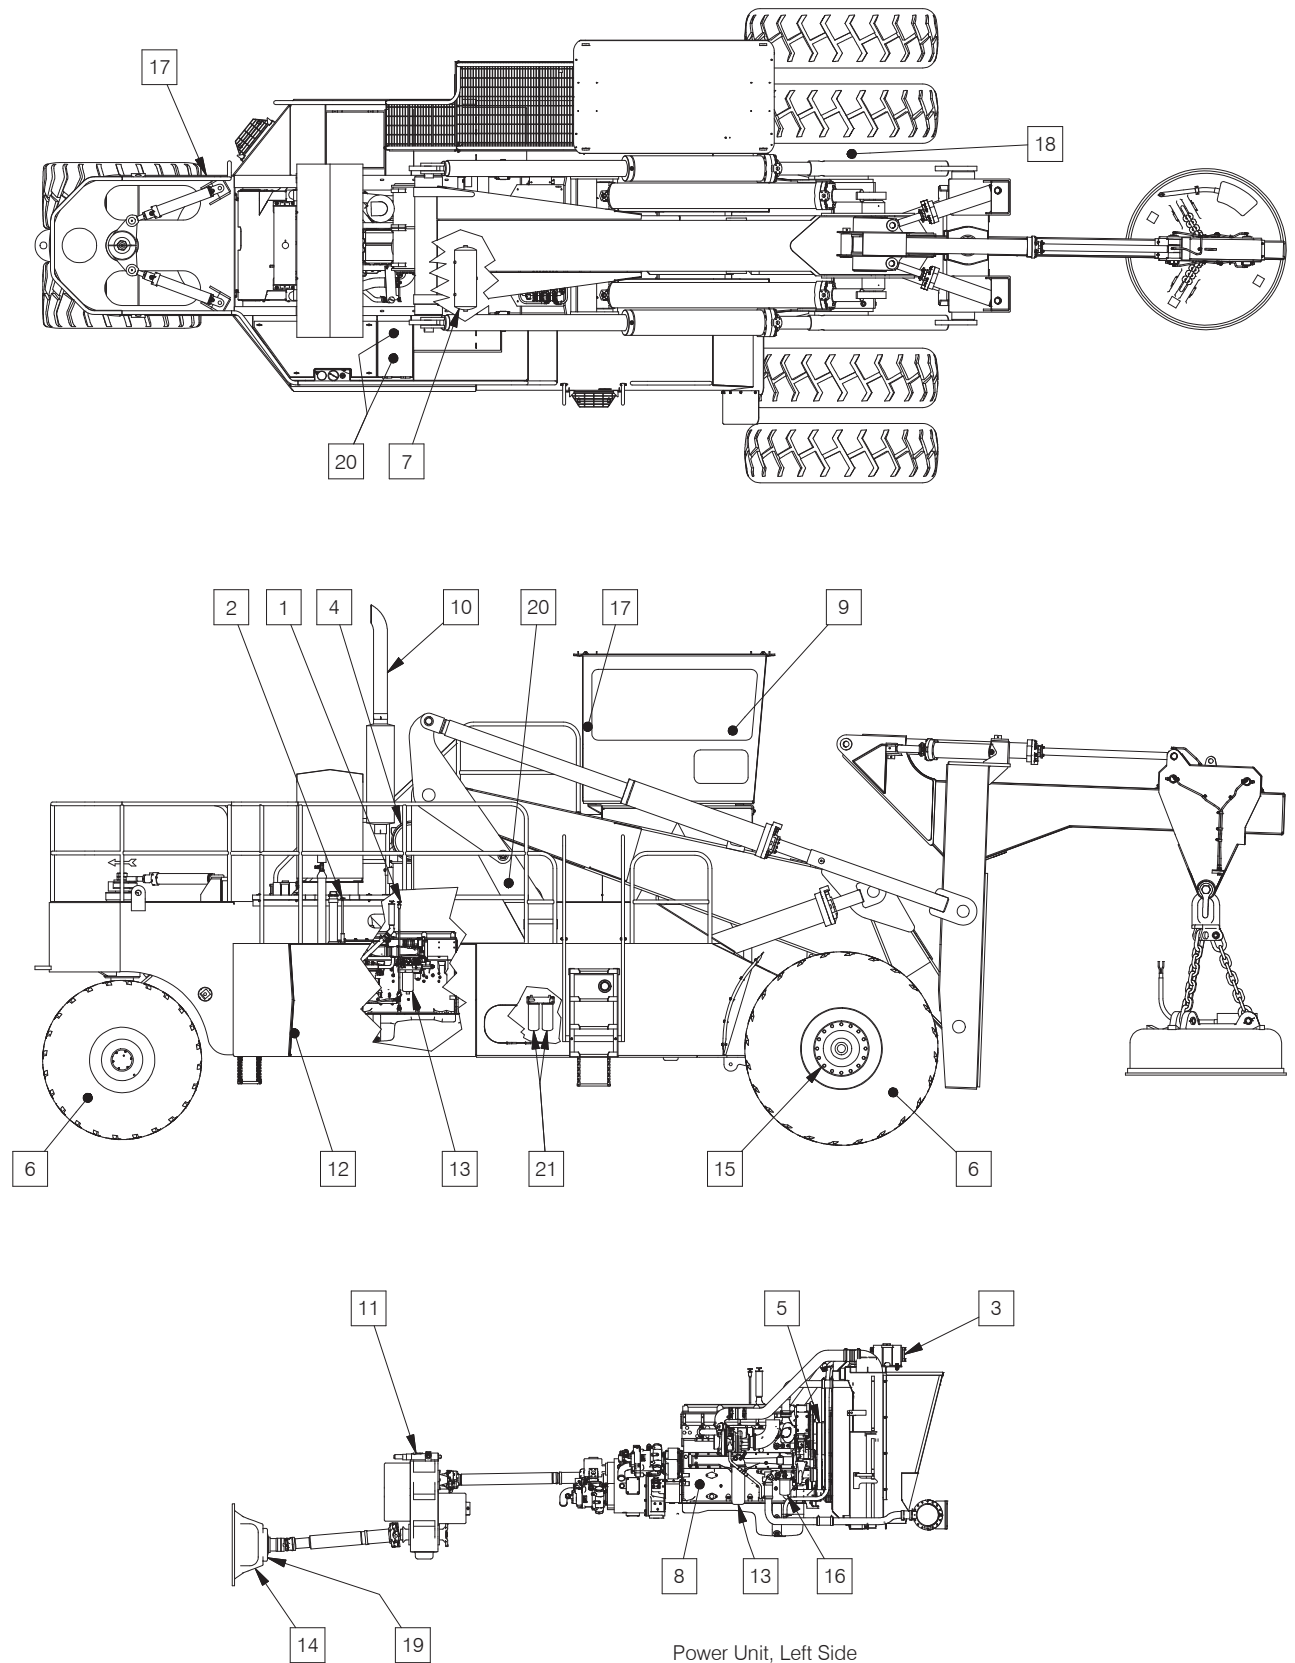

Fig. 6-3 Maintenance Chart
6.10 Shift Maintenance Checklist (See Fig 6-3)